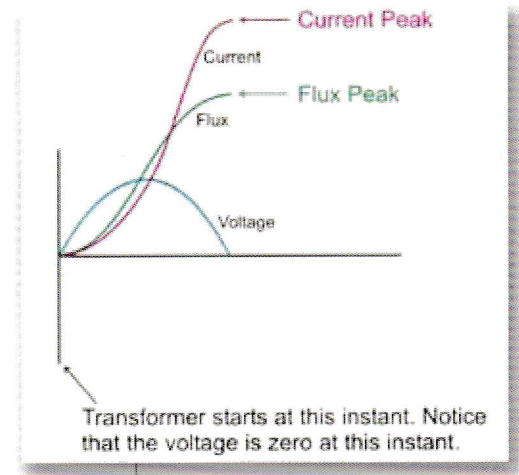

Figure 1
- If at turn-on, the AC wave is going through its zero value, then the current drawn will be very high and exceed the saturation current (see Figure 1). In figure 1., the transformer has to be protected from inrush current.